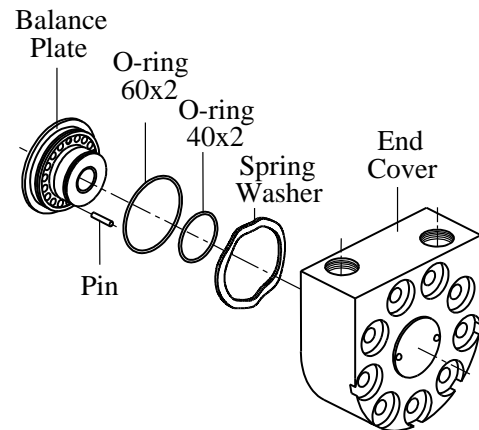

Fig.8
14. Turn the end cover with the hole conversely on a clean soft surface. Knock several times using a plastic hammer on the rear side. Set in order the fallen parts apart (see Fig.8).
19. Mount the lubricated O-rings 62x2 and 40x2 in the relevant grooves of the balance plate (see Fig.8).